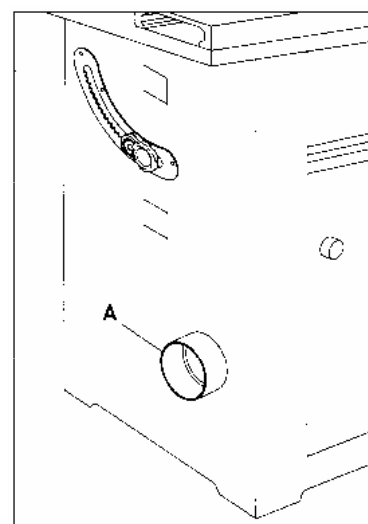

Fig. 3.27
One dust chute opening is provided on the fence and another dust chute opening (A) Fig.3.27 is provided on the machine frame.